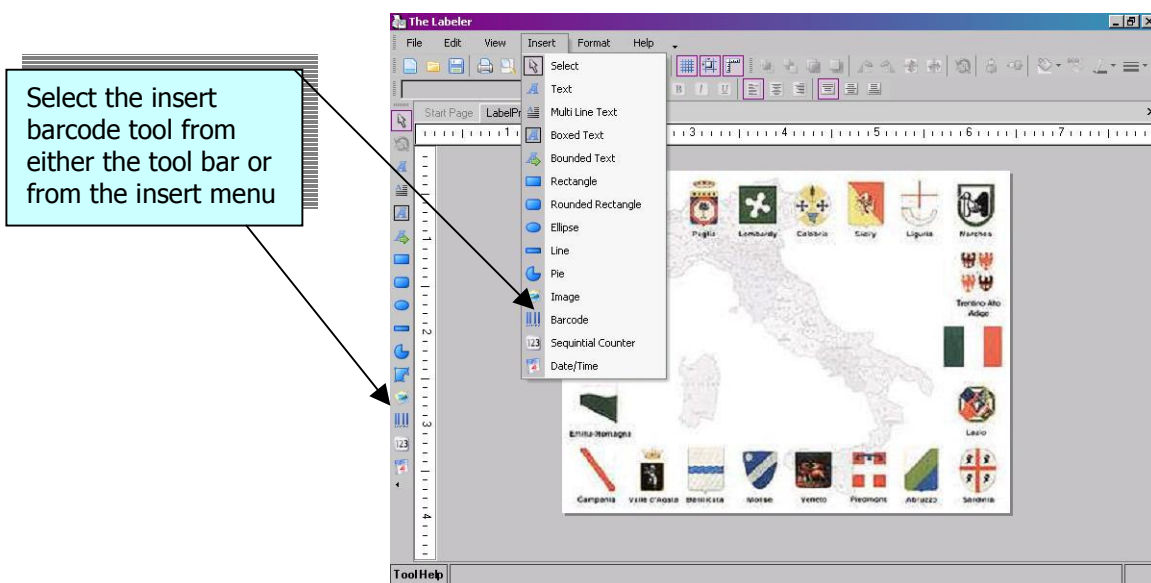

Figure 3.7.1: Selecting Insert a Barcode
1. Select the insert barcode icon  from the toolbar on the left hand side of the screen or you can find it in the insert menu (see Figure 3.7.1).